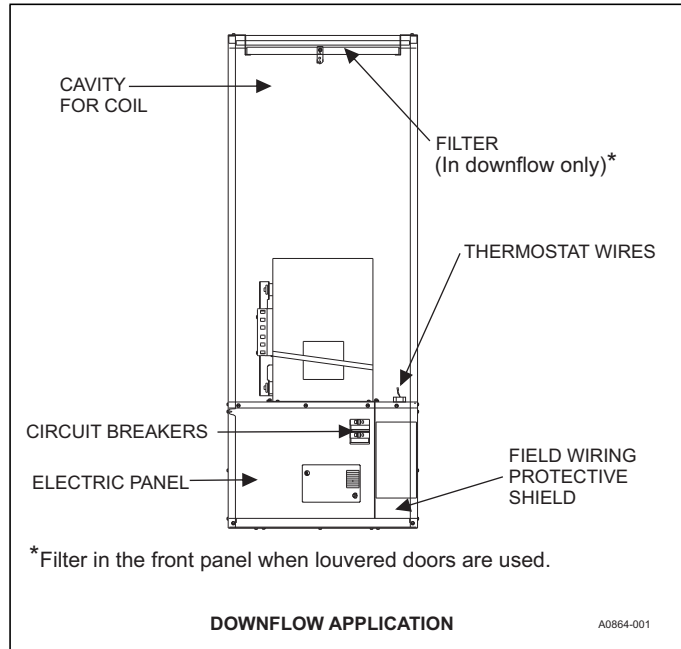

FIGURE 1: EBE Downflow Component Locations
4. Slide the blower out from the front of the furnace. See Figure 1 or 2.
Your electric furnace is equipped with a unique safety feature: circuit breakers. These circuit breakers are located behind the door of the furnace near the bottom of the furnace. See Figure 1. If a component fails inside the furnace, the circuit breakers prevent damage that can be caused by an electrical short.
FILTER LOCATION: For the downflow furnace, you must remove the front panel of the furnace to gain access to the filter. See Figure 1. For the upflow furnace, the filter is located behind the return air grille, adjacent to the furnace closet or any other location in the return air.